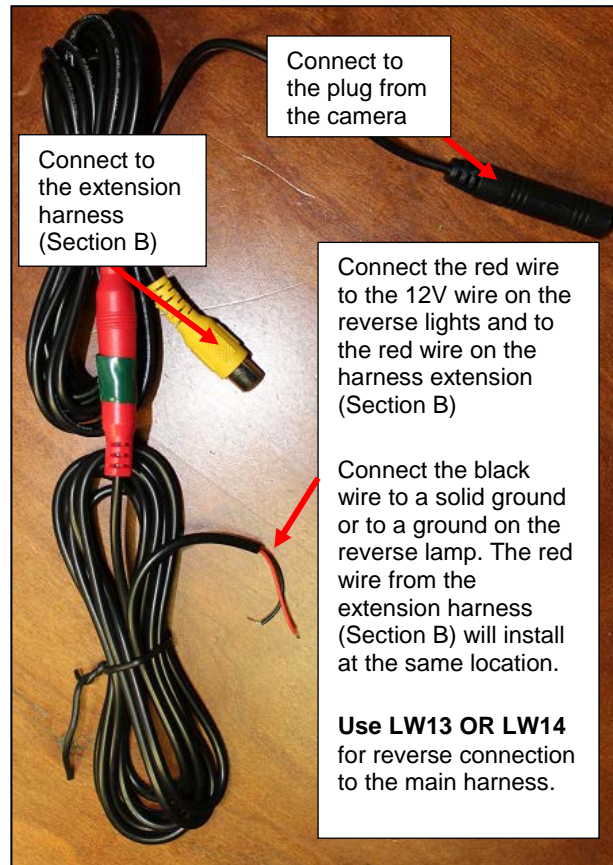

Figure 6: Section C Harness Connections
7. Connect Section C of the harness as shown in **Figure 6**.